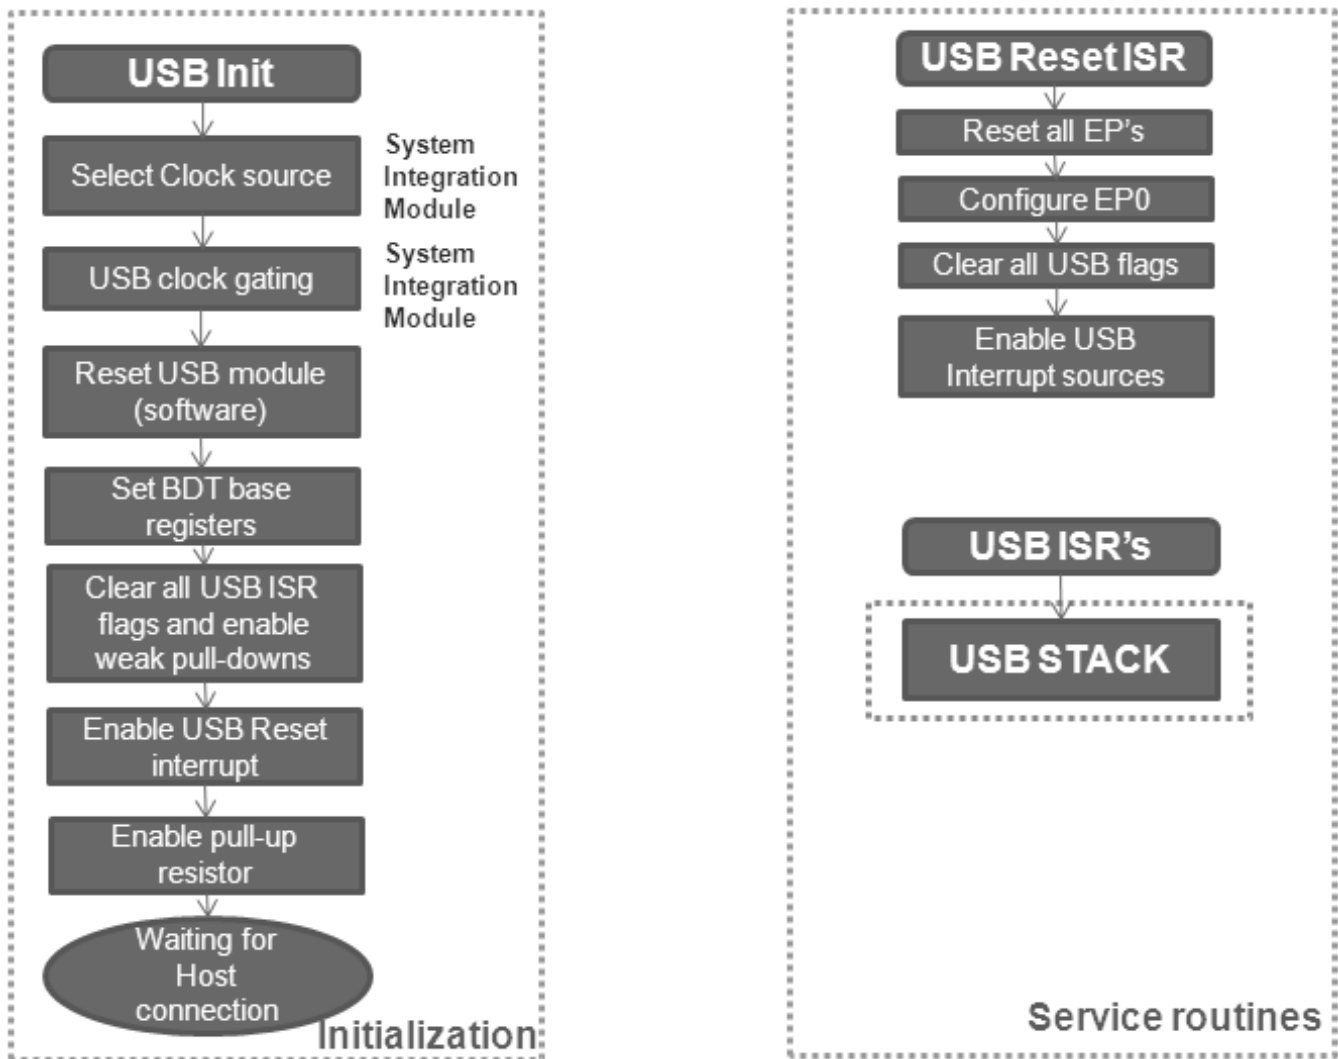

Figure 9-6. Device mode initialization flow
- **Device mode initialization:** In Device mode, after initialization is complete, the USB module activates the pullup resistor to be detected by the remote host. Figure 9-6 shows the initialization flow diagram of the USB module in Device mode.